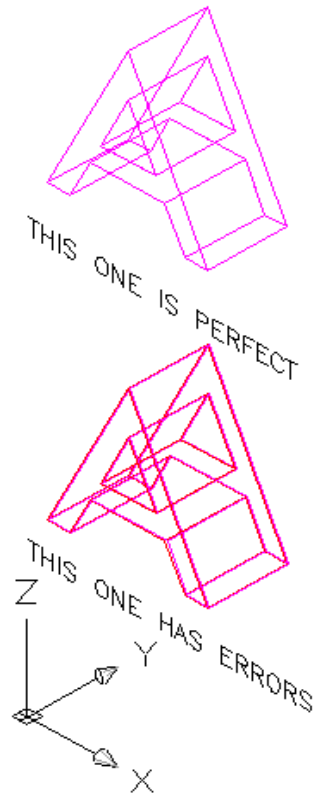

Figure Step 13
Step 13 This will insert a magenta colored overlay key on your model. If there double objects or places where the users model and the magenta model don't match, the users model is incorrect. If only one model displays, even though it may share the colors magenta and red, the model is accurate. The magenta key resides on layer: Key. If the model is incorrect, turn layer: Key off and correct the model before going on to the next lab exercise or module. After your model is corrected, check it again by turning layer: Key on. (Figure Step 13)